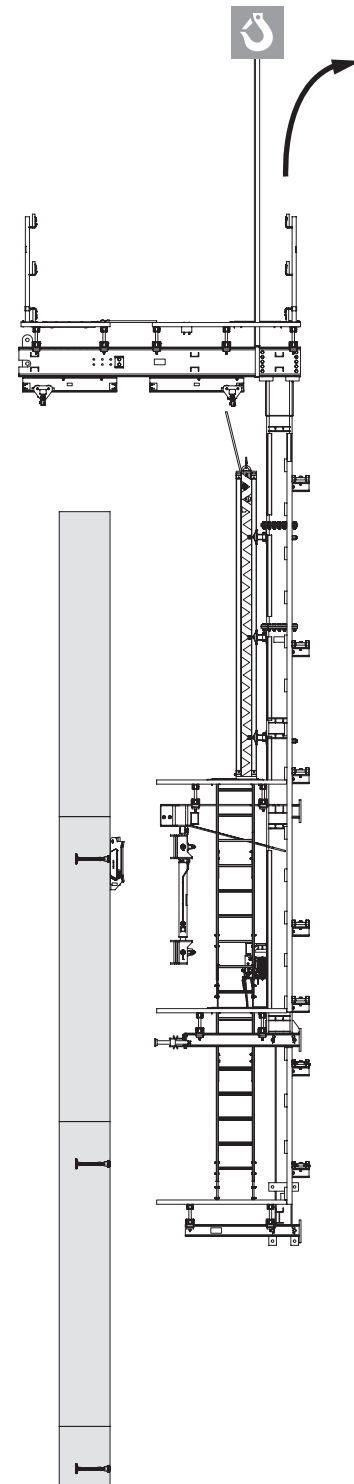

Fig. E2.03
7. Unhook the climbing unit, lower it to the ground and let it hang from the crane. (Fig. E2.03)